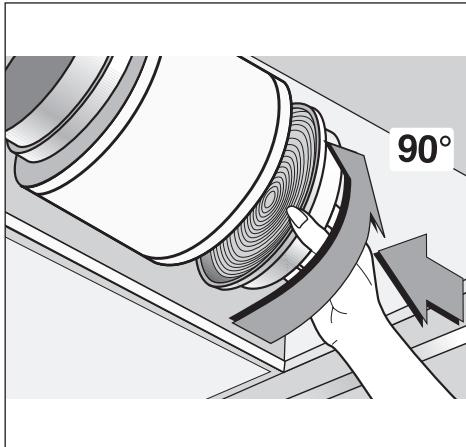

Fig.16
- The filters must be applied to the suction unit inside the hood, centring them and turning them 90 degrees until they click stop (Fig.16).